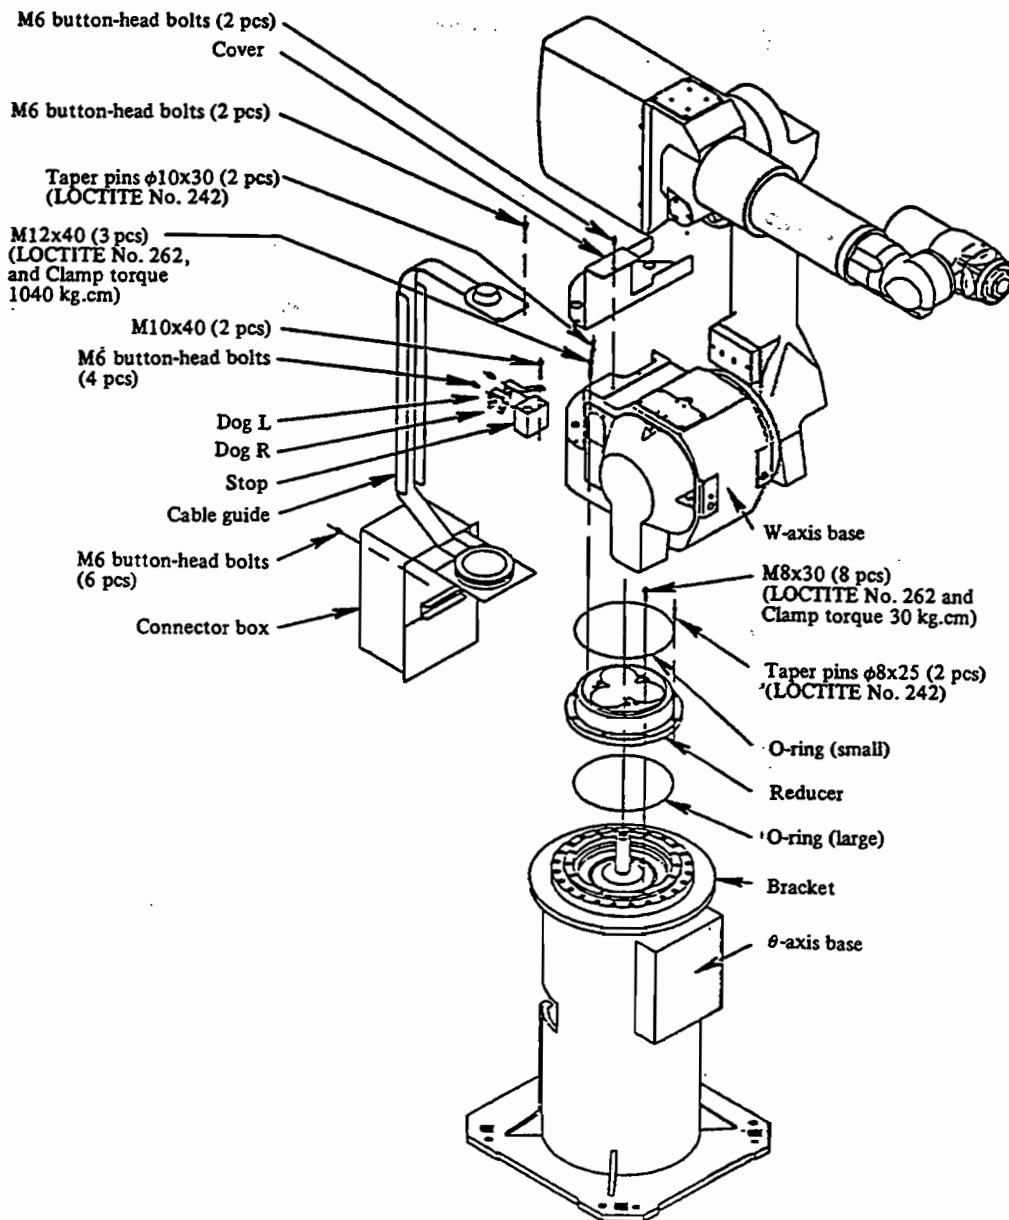

Fig. 5.2 Replacing θ -axis reducer (S-10)
- ① Remove two M6 button-head bolts mounting the upper part of the cable guide to W-axis base.
- ② Remove the stop and the dog from the bracket.
- ③ Remove the rear cover from the W-axis.
- ④ Remove three M12x40 bolts and two $\phi 10 \times 30$ taper pins mounting the W base to the θ -axis reducer, and lift the mechanical unit. At this time, take care not to apply excessive force to the cable, cable guide, and connector box.
- ⑤ Remove eight M6x30 bolts and two $\phi 5 \times 20$ taper pins mounting the θ -axis reducer to the bracket, and replace the reducer.
- ⑥ Reassemble reversing the above procedure. Apply a thin coat of LOCTITE to the bolts and pins removed in steps ④ and ⑤. Tighten the bolts with the specified torque. See Fig. 5.2.
- ⑦ Grease each part, referring to section 2.